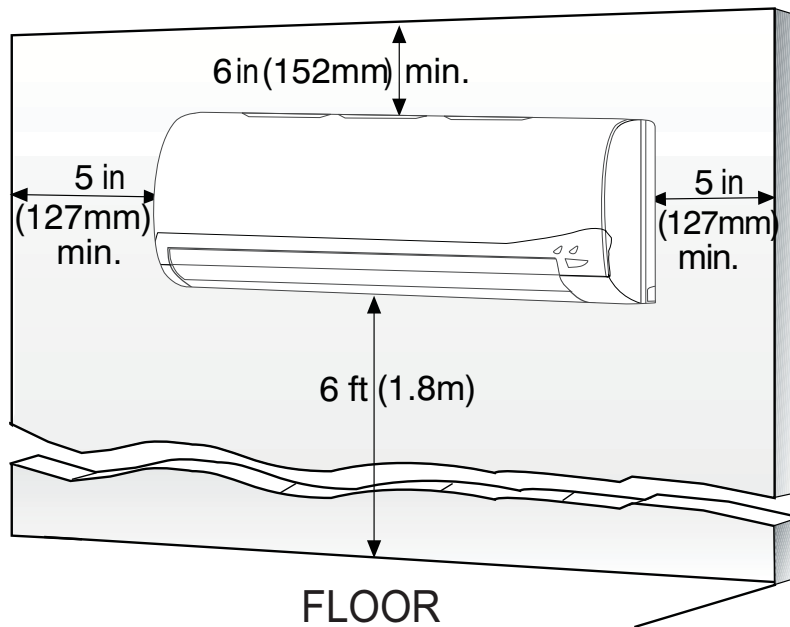

Fig. 7 — Indoor Unit Clearances
Allow sufficient space for airflow and servicing unit. See Fig. 7 — on page 8 for minimum required distances between unit and walls or ceilings.
- A location which provides appropriate clearances (see Fig. 7.)
2. The mounting plate should be located horizontally and level on the wall. All minimum spacings (see Fig. 7) should be maintained.